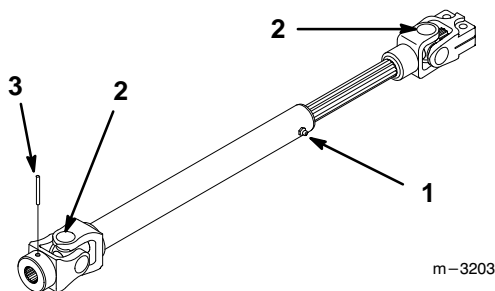

Figure 8
2. Grease the fittings on drive shaft and universal joints (Fig. 8).
3. Temporarily install the roll pin 3/16" x 2" part-way into the hole in the end of the unconnected universal joint to store it until a mower deck is installed (Fig. 8).